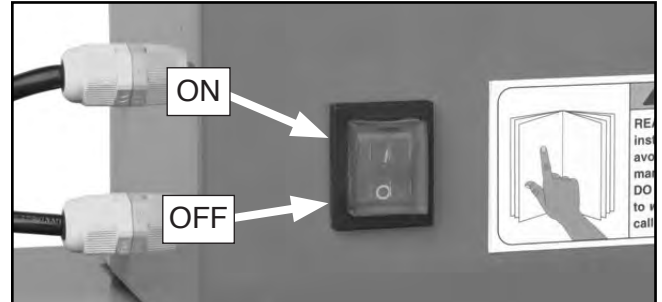

Figure 20. Power switch in OFF position.
2. Make sure that the power switch is in the OFF position (see **Figure 20**).